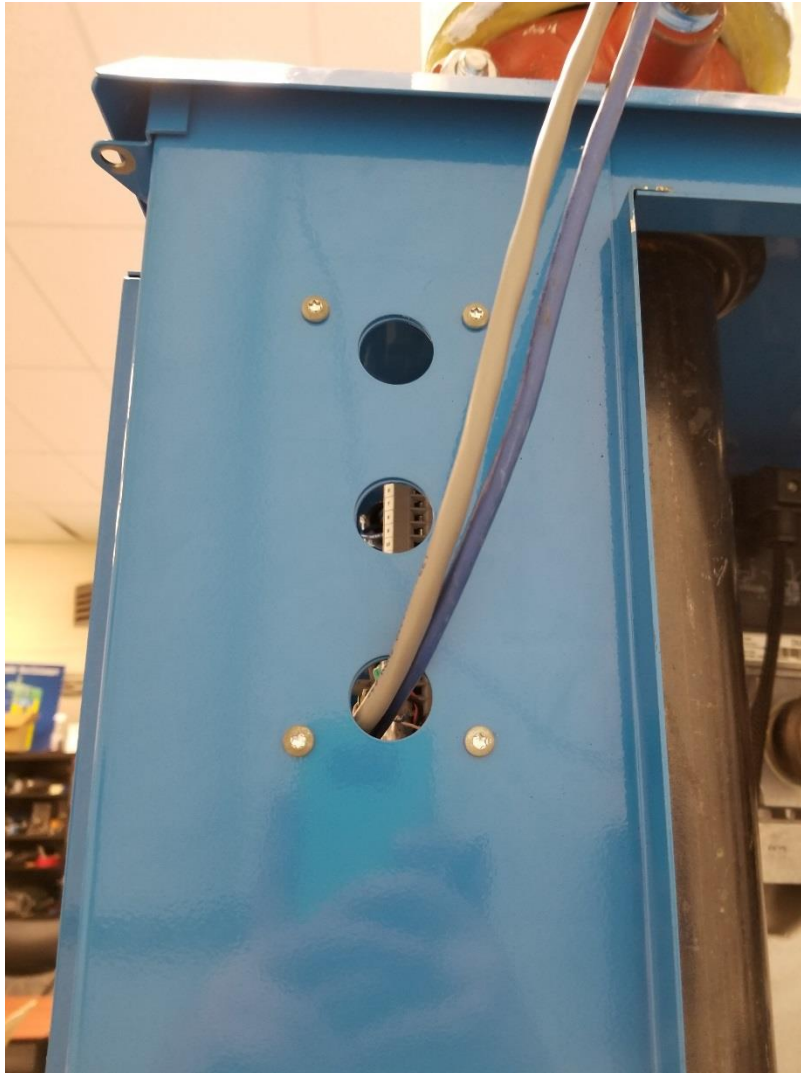

Figure 8
10. Install new terminal boxes and secure using 4 T20 Torx screws on each side shown in figure 8.